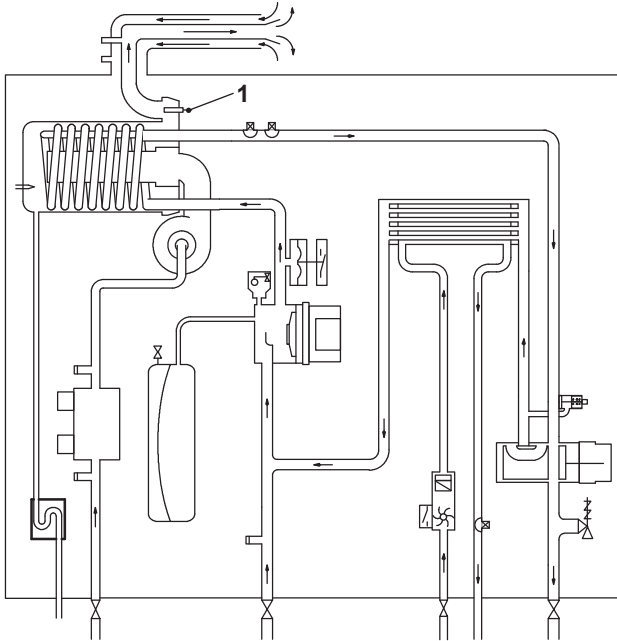
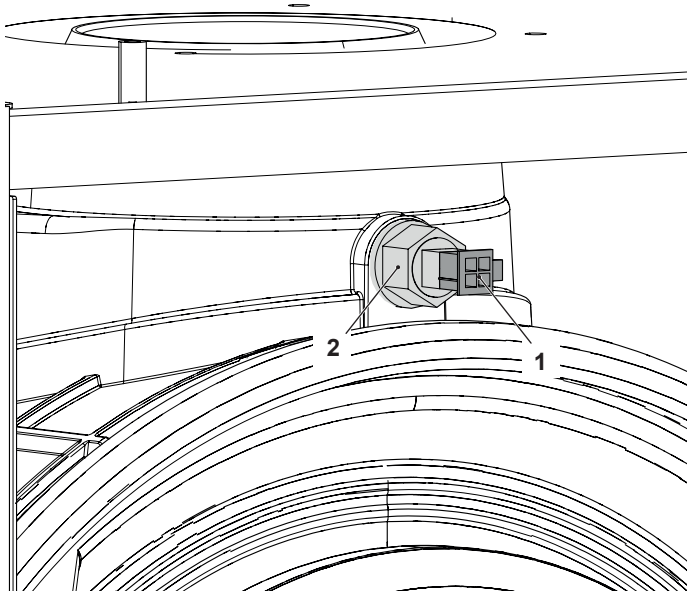

Figure 18.1
Figure 18.2
The Safety thermal fuse "1" in Figure 18.1 and Figure 18.2 senses the temperature of the combustion products that flow through the condensing heat exchanger.
A Safety thermal fuse "1" in Figure 18.1 and Figure 18.2 acts as a safety device in extreme case of incorrect operation of the Flue temperature control system.
- 2 Disconnect the connector "2" from the Safety thermal fuse by pressing the plastic hook placed on the side of the connector (Figure 18.2).
- 3 Unscrew and remove the Safety thermal fuse "1" (Figure 18.2) from the condensing heat exchanger.